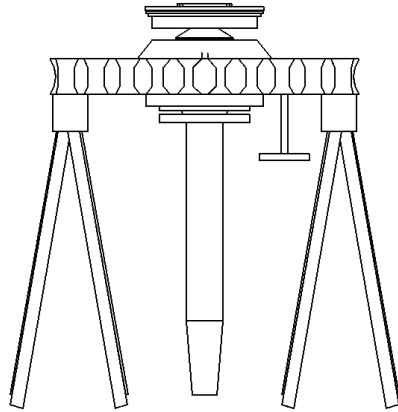

Figure 48 Ring Gear Removal
10. With the assembly resting on the stands, remove the output shaft sling, and set the sheave side of the output shaft pointing down. See figure 48.